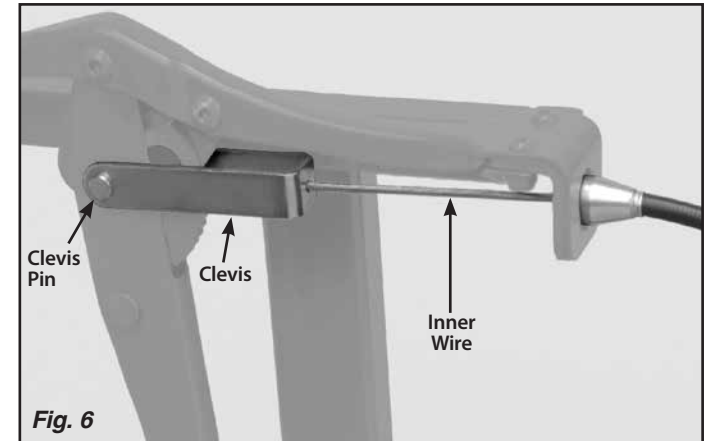
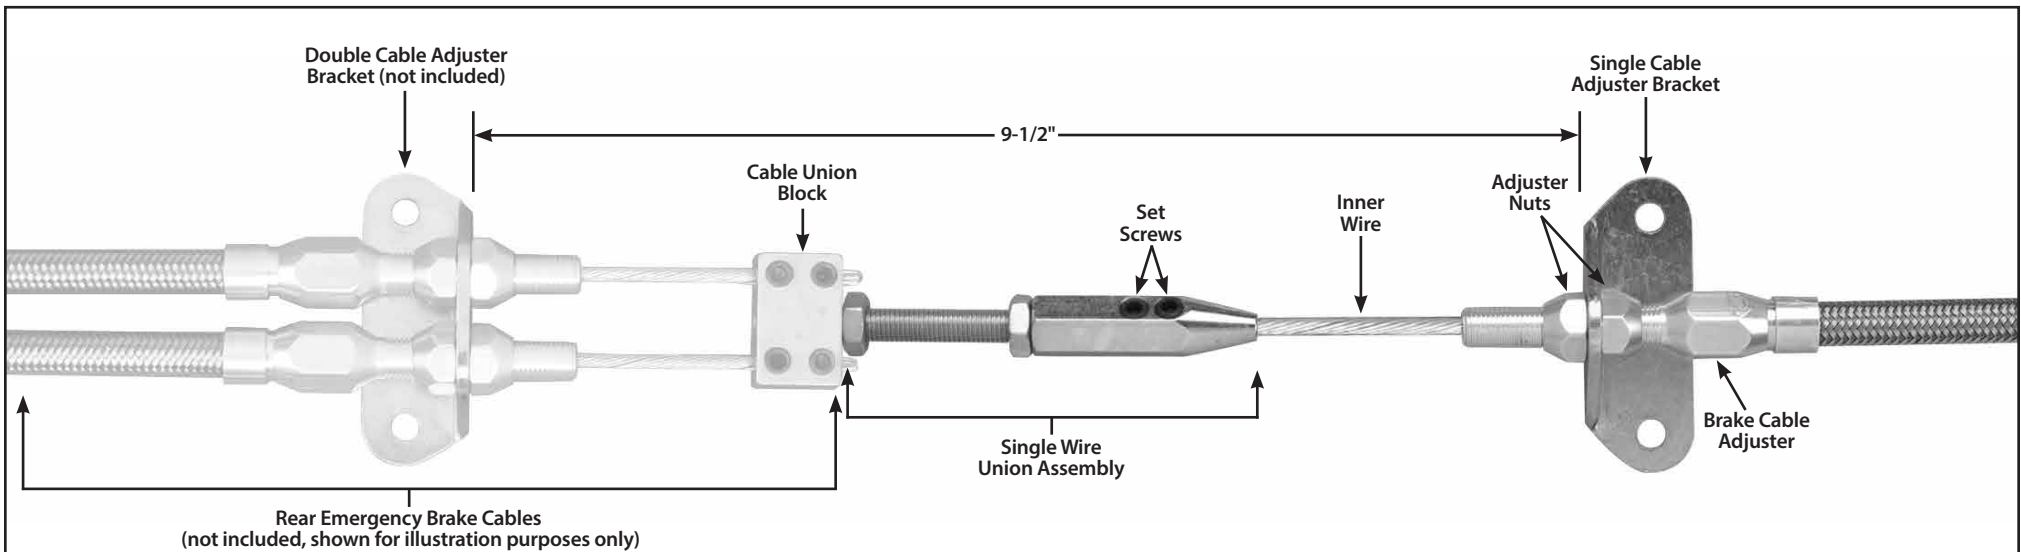

Fig. 6
Fig. 4
Step 4: Determine where the single cable adjuster bracket will be mounted. The single cable adjuster bracket must be aligned with the double cable adjuster bracket (not included, part of the Lokar Universal Emergency Brake Cables available separately) so that the cables are being pulled in a straight line, not at an angle. If you are using Lokar Universal Emergency Brake Cables, the single cable adjuster bracket should be mounted approximately 9-1/2" in front of the double cable adjuster bracket as shown in **Fig. 4**.
Step 14: Adjust all cables as necessary to remove any slack. **Fig. 4** and **Fig. 6** show the completed assembly.